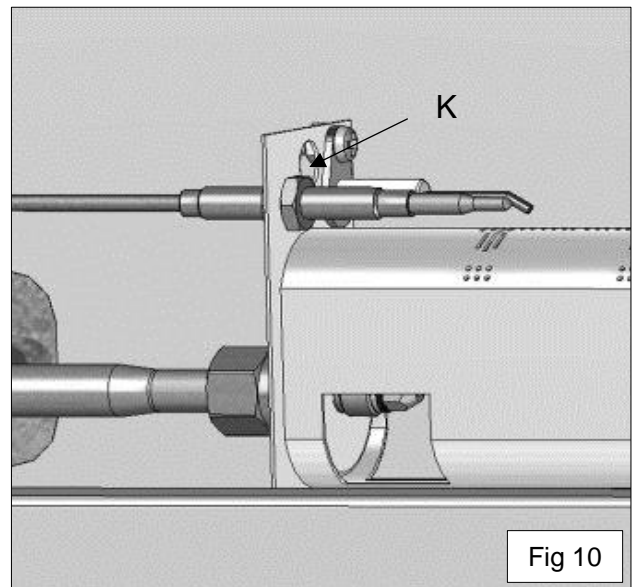

Fig 10
Inside the oven cavity, remove the thermocouple lock nuts (K), Fig 10